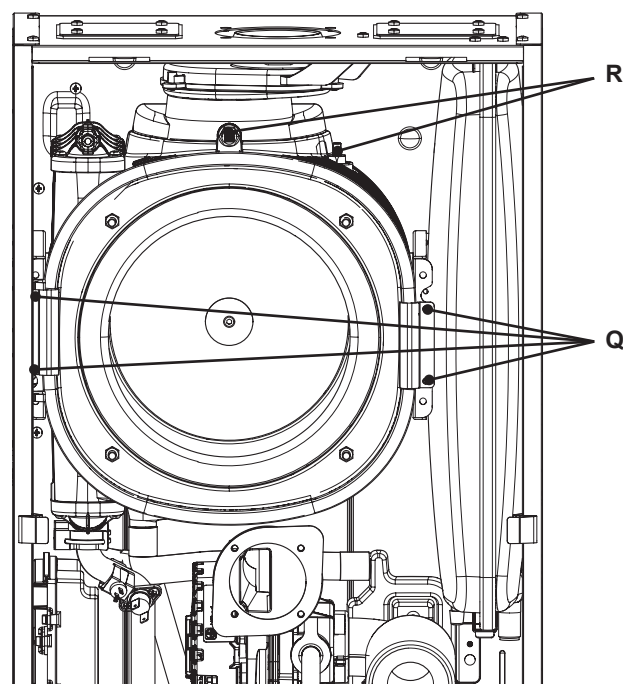

Figure 5.3
- 12 Unscrew the screws "Q" and remove the clamps (Figure 5.3).
- 13 Disconnect the two connectors "R" by pressing the plastic hook placed on the side of the connector (Figure 5.3).